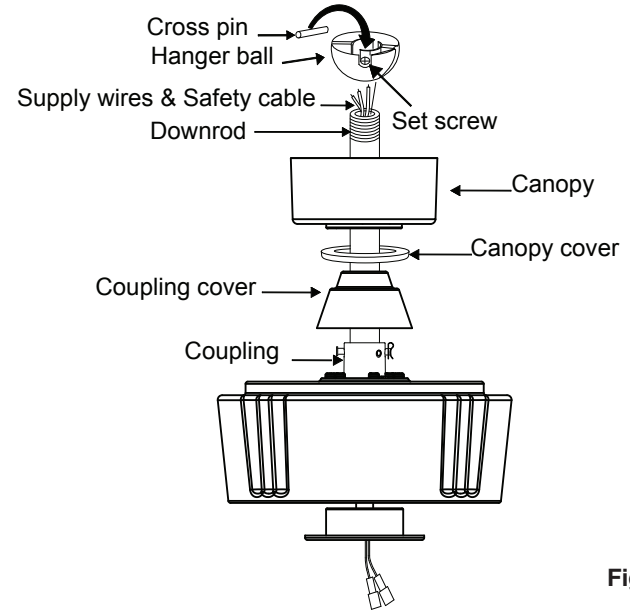

Fig. 10
**Step 8.** Slip the coupling cover, canopy cover and canopy onto the downrod. (Fig. 10)